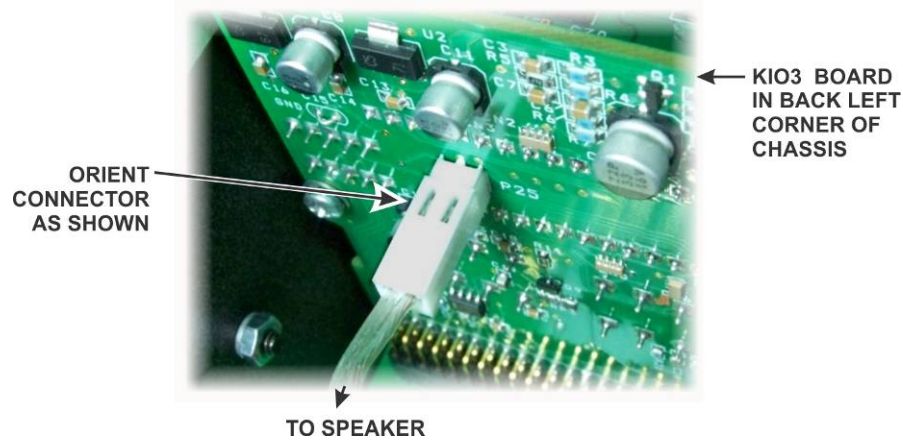

Figure 15. Connecting Speaker Cable.
- Hold the top cover above the K3S/ K3, route the speaker wire under the stiffener bar and plug it into P25 on the KIO3 or KIO3B board at the left rear of the chassis as shown in Figure 15.